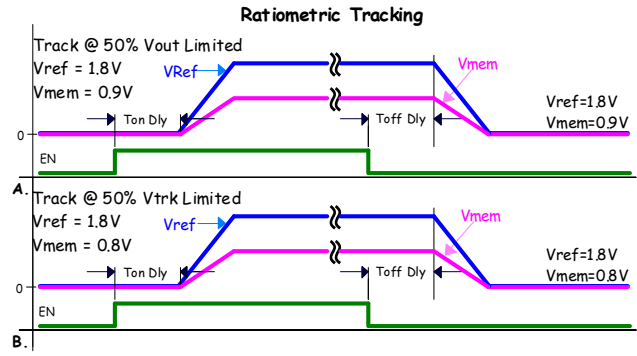

FIGURE 21. RATIOMETRIC TRACKING
- a. Track at 50% VOUT limited. Member rail tracks the reference rail and stops when the member reaches 50% of the target voltage, Figure 21 (A).
- b. Track at 50% VTRK limited. Member rail tracks the reference at the instantaneous voltage value applied to the VTRK pin until the member rail reaches 50% of the reference rail voltage, or if the member is configured to less than 50% of the reference the member will achieve its configured target, Figure 21 (B).
Tracking Configuration Figure 21 (A)
Tracking Configuration Figure 21 (B)